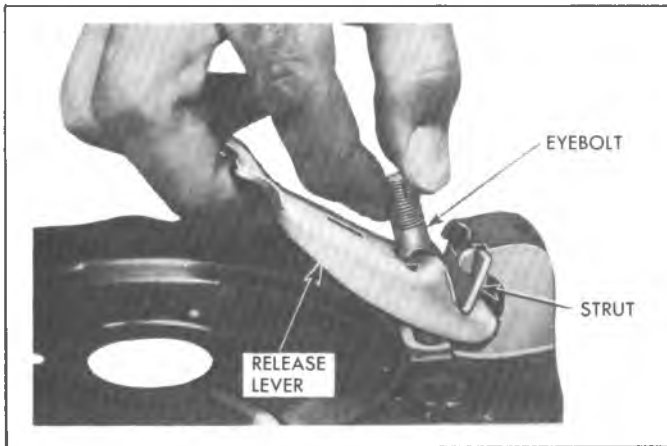

Fig. 5E-Removing Levers (Step 2)
5. Lift strut over ridge on end of lever, (fig. 5E).
4. Insert lower end of eyebolt in hole in pressure plate. The short end of the lever will then be under the hook of the pressure plate and near the strut, (fig. 5E).